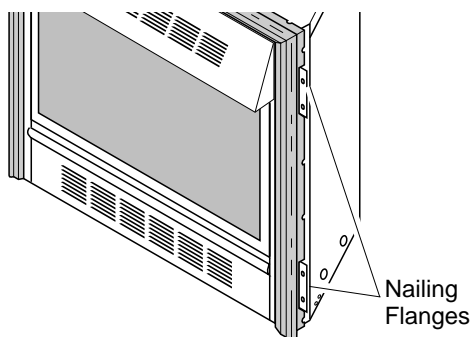

Figure 10 - Location of Nailing Flanges
- Break off nailing flanges (see Figure 10, page 9) with hammer or pliers.